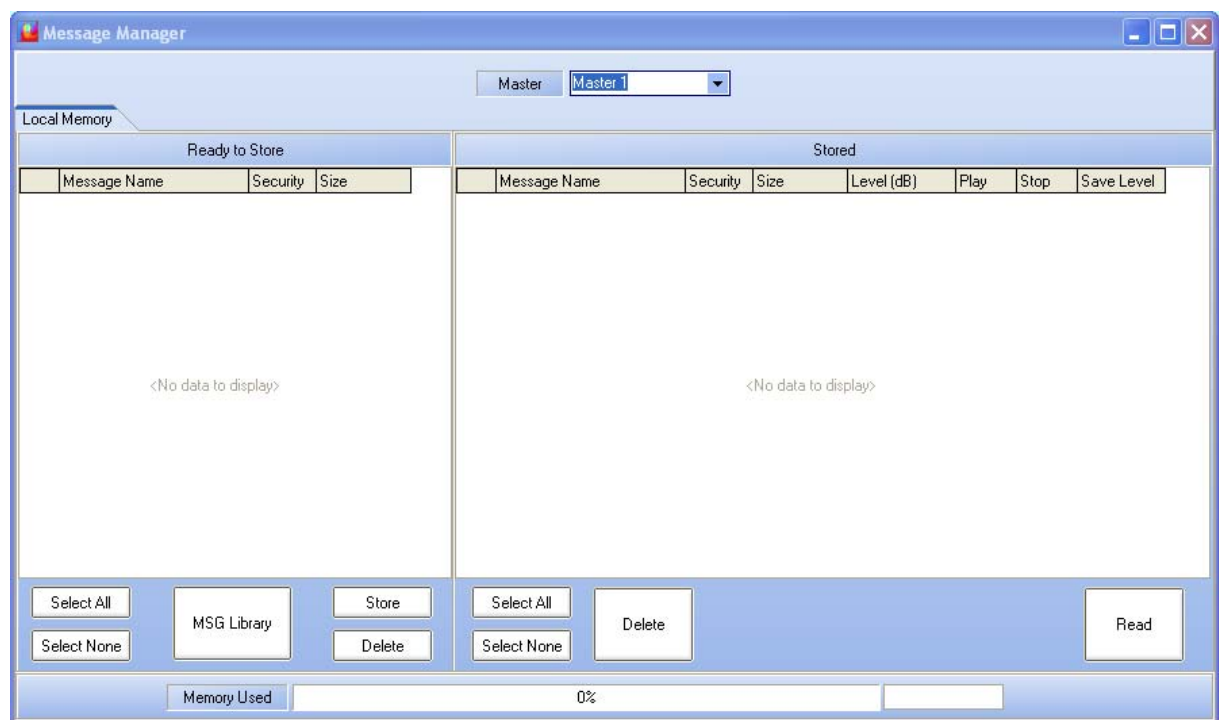

Figure 14: Message Window
- Click on the menu “view” -> “Message”. The message page will display (Figure 14).